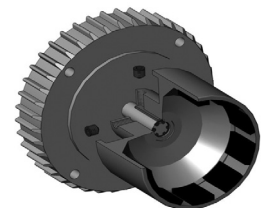

Figure 5
NEMA Motors: Install set screws (item 13B) into threaded holes on the side of the outer drive magnet assembly. Using a 3/16" Allen bit & torque wrench, tighten to 228 in-lbs (25.8 N-m). See figure 5.